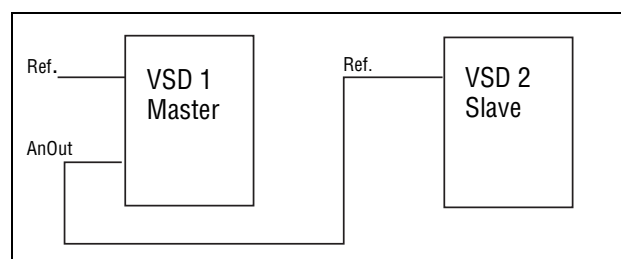

Fig. 112
- a reference signal for the next VSD in a Master/Slave configuration (see Fig. 112).